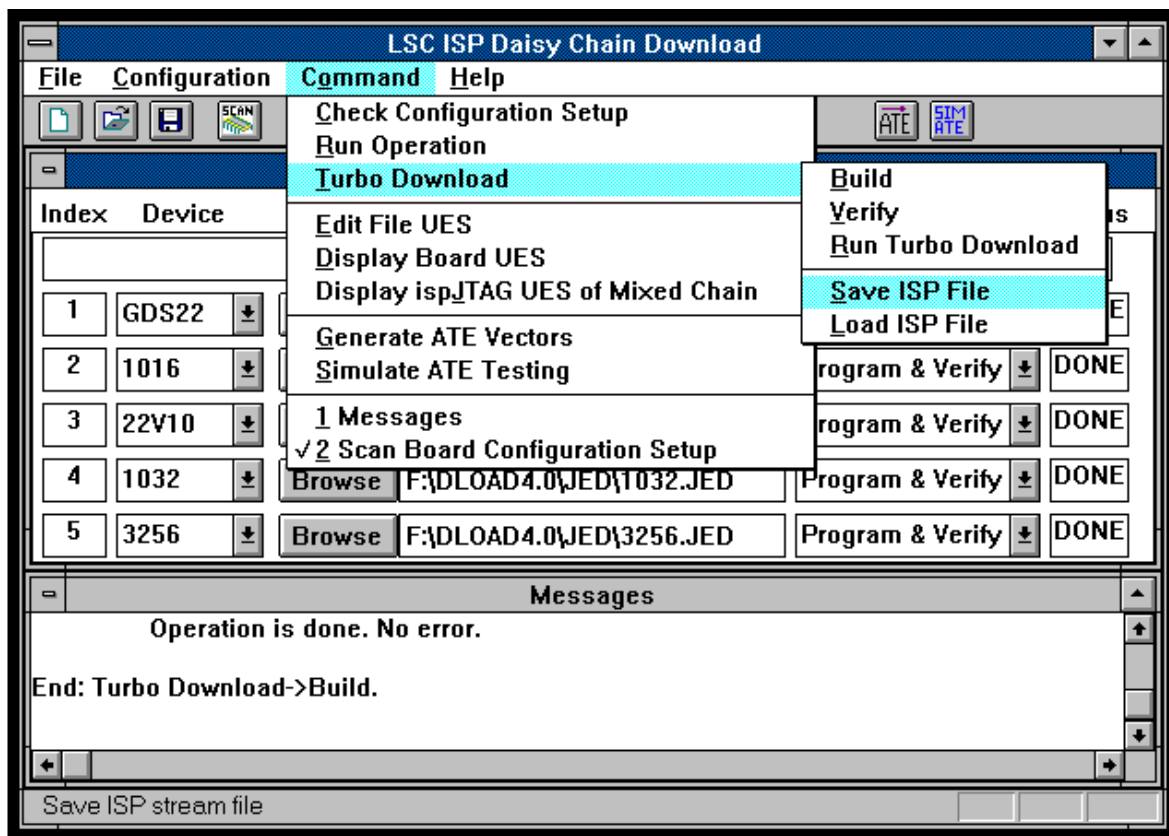
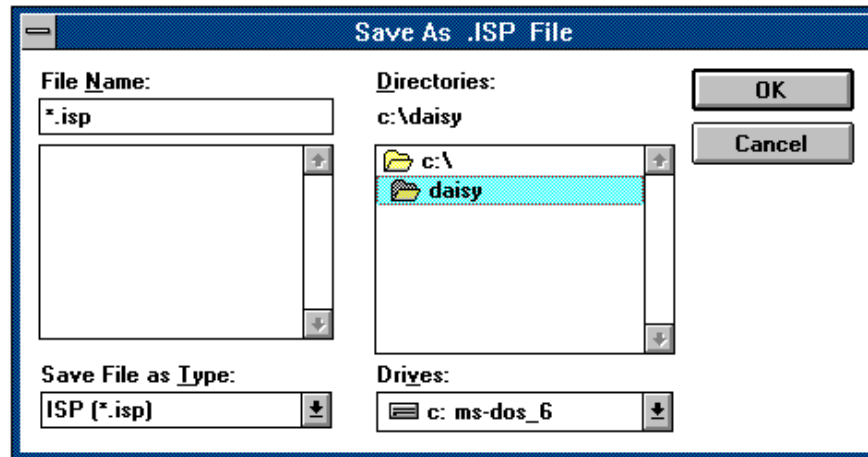

Figure 3-14. **Command** ⇒ **Turbo Download** ⇒ **Save ISP File** Menu Item
Figure 3-15. Save As .ISP File Dialog Box
1. Select **Command** ⇒ **Turbo Download** ⇒ **Save ISP File** or the **Turbo Save** icon from the ISP Daisy Chain Download menu (Figure 3-14). The Save As .ISP File dialog box appears (Figure 3-15).